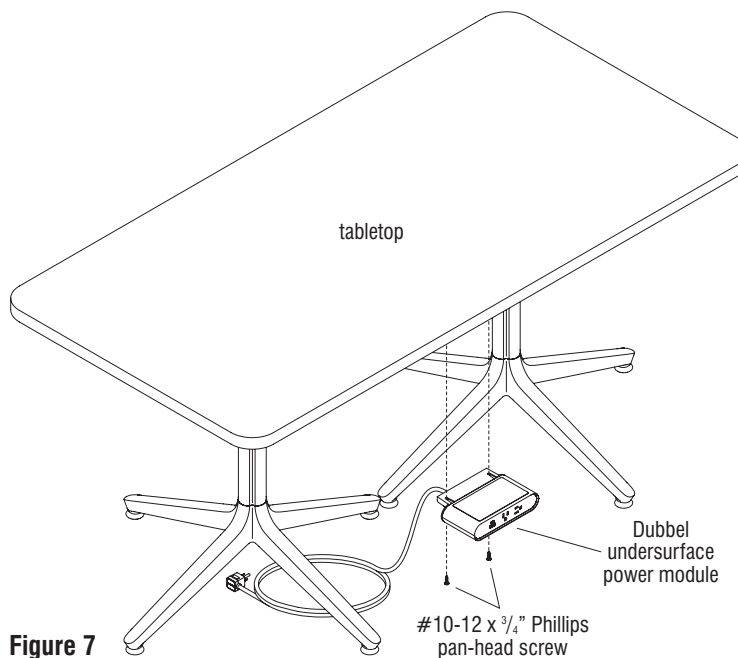

Figure 7
1. With the assembled table in the upright position, align the mounting holes of the Dubbel undersurface power module with one of the four sets of Dubbel pre-drilled mounting hole locations underneath the tabletop. Secure the Dubbel power module to the tabletop using two #10-12 x 3/4" Phillips pan head screws (Figure 7 & Detail G).